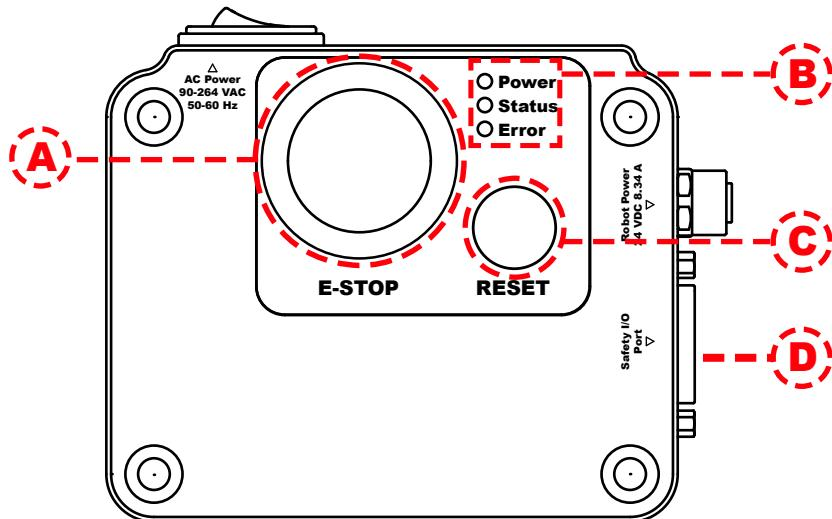
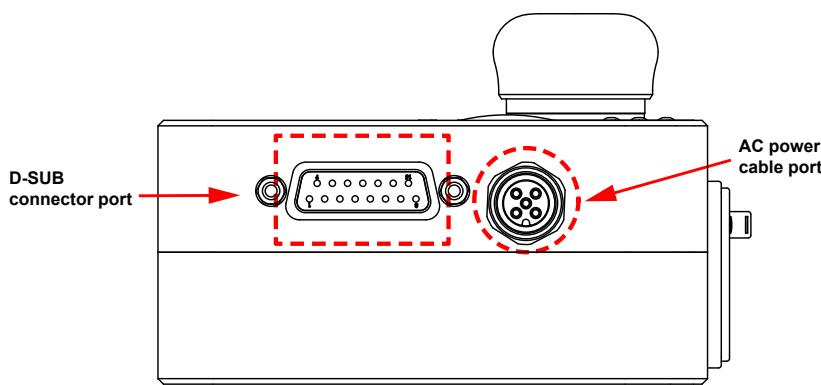

Figure 2: Power supply features
Figure 3: Power supply connectors
Figure 2 and Figure 3 show the Meca500 power supply with safety module. Its main features are:
- D: D-SUB 15-position interface (see also Figure 3) for connecting safety I/O.